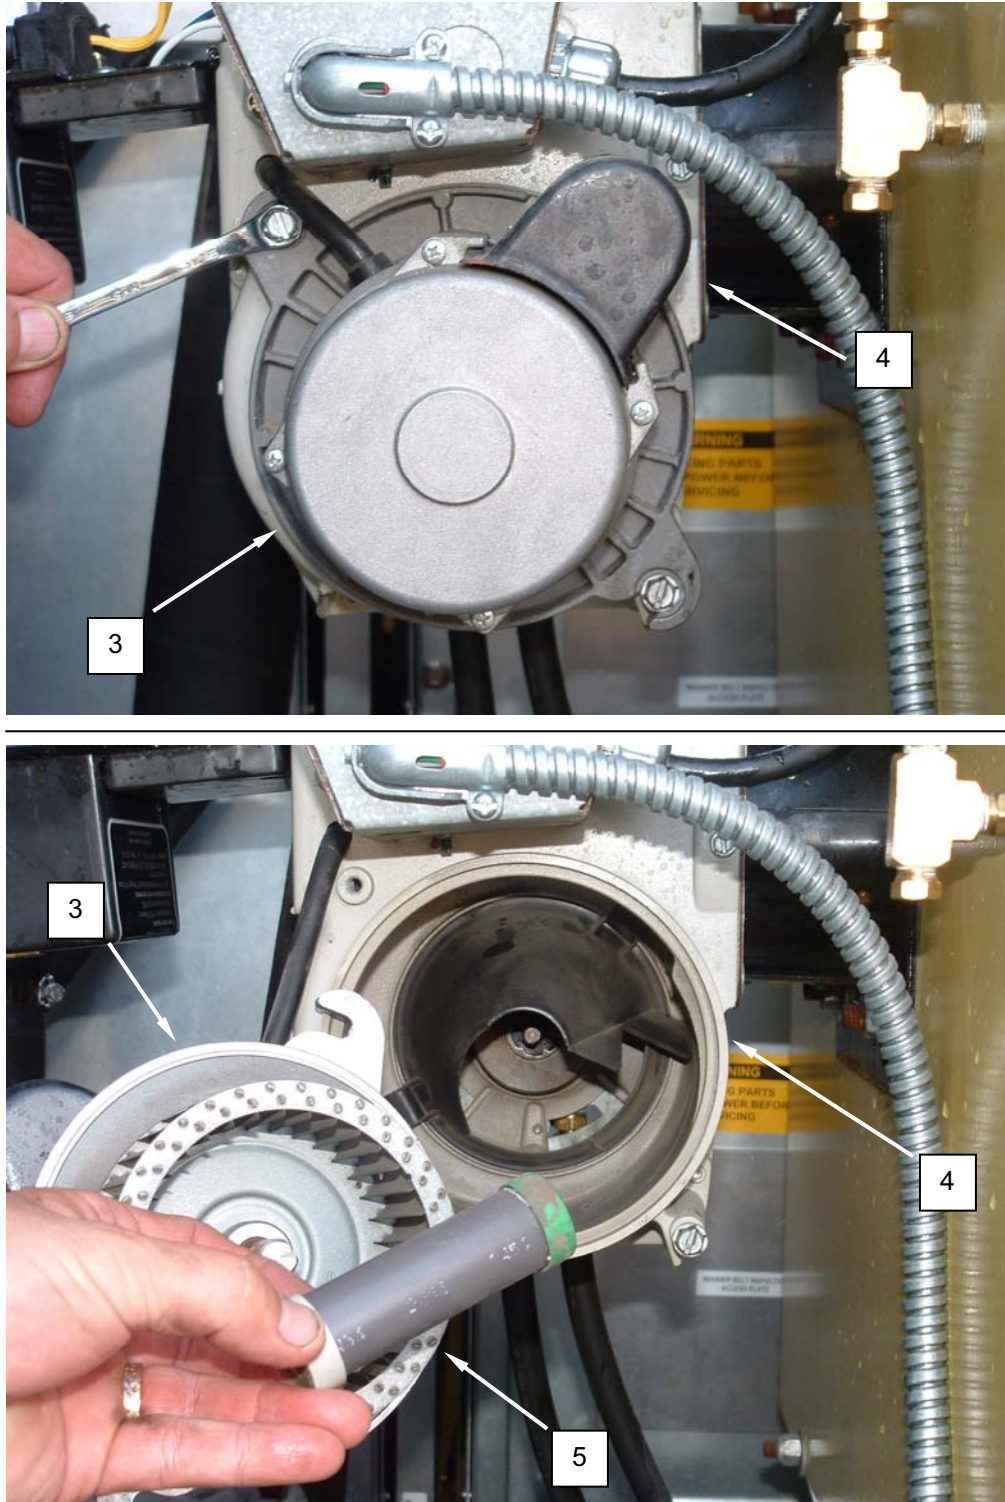

Figure 2. Replace the Motor.
4. Remove the screws retaining the motor (**Figure 2, Item 3**) to the burner (**Figure 2, Item 4**), and replacement remove the motor.
5. Remove the fuel pump coupling (**Figure 2, Item 5**) from the motor.
6. Install the fuel pump coupling (**Figure 2, Item 5**) onto the replacement motor.
7. Ensure the fuel pump coupling (**Figure 2, Item 5**) is in place, and install the motor (**Figure 2, Item 3**). Retain with screws.